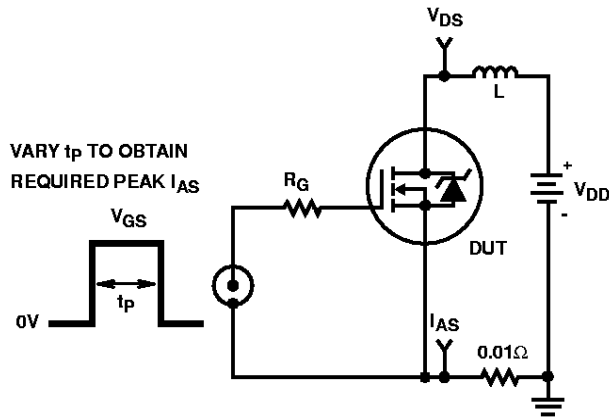

FIGURE 15. UNCLAMPED ENERGY TEST CIRCUIT
4. $V_{DD} = 50\text{V}$, starting $T_J = 25^\circ\text{C}$, $L = 4.3\text{mH}$, $R_{GS} = 25\Omega$, Peak $I_{AS} = 20\text{A}$ (Figures 15, 16).